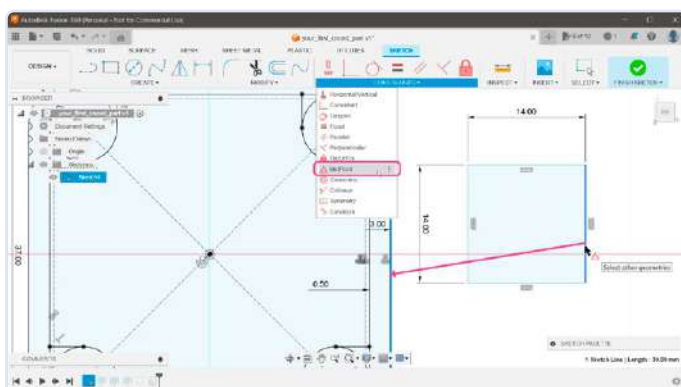

Figure 17: Centering the rectangle with the MidPoint function.
17) To move the rectangle to the correct position, select the **MidPoint** (Figure 17) constraint from the **Constraint** group in the toolbar. First, click the right line of the newly created rectangle. Next, click the right line of the wall of the enclosure. This will ensure those two lines are center-aligned and will move the rectangle to the